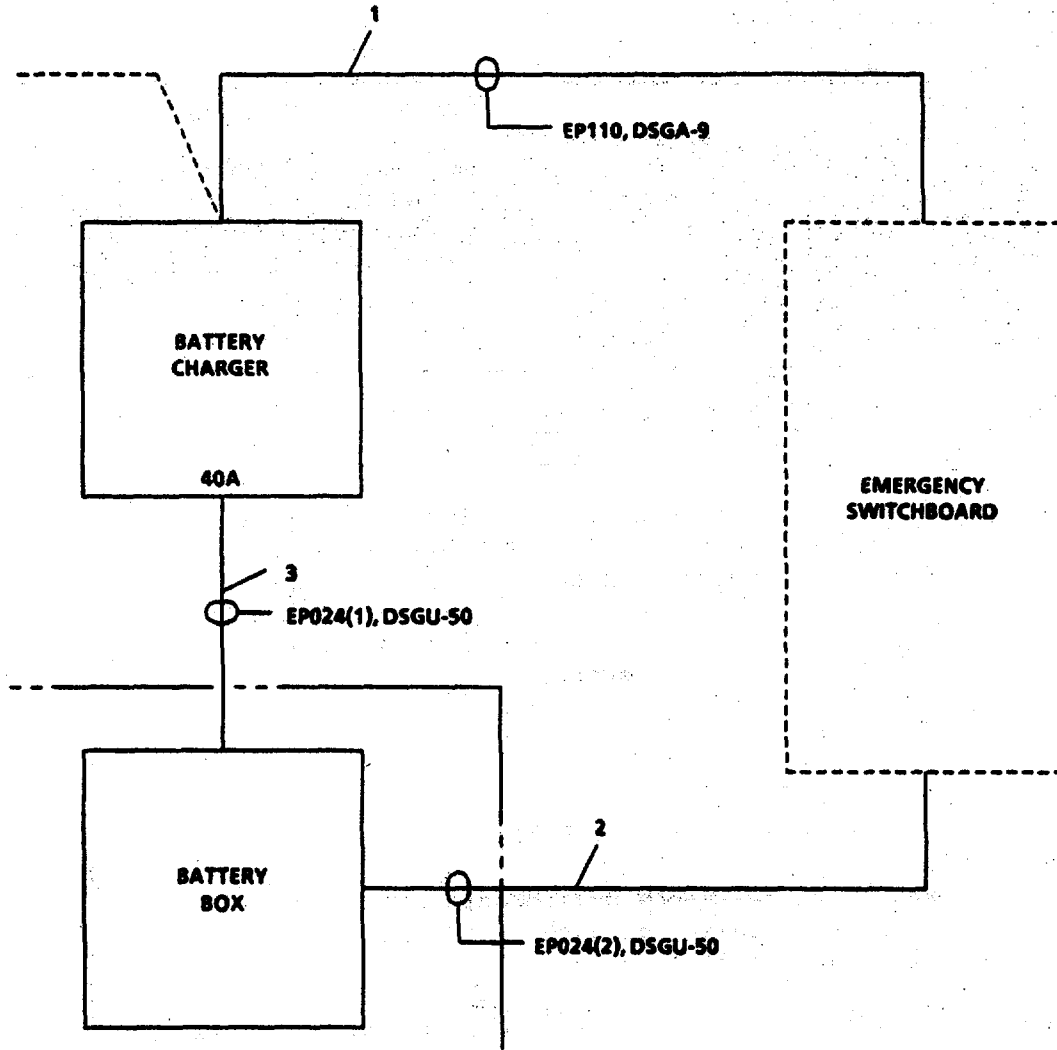

FIGURE 3-162. *Emergency Switchboard Battery Assembly.*
**3-179. Repair Emergency Generator Switchboard Battery Assembly. (Figure 3-162)**